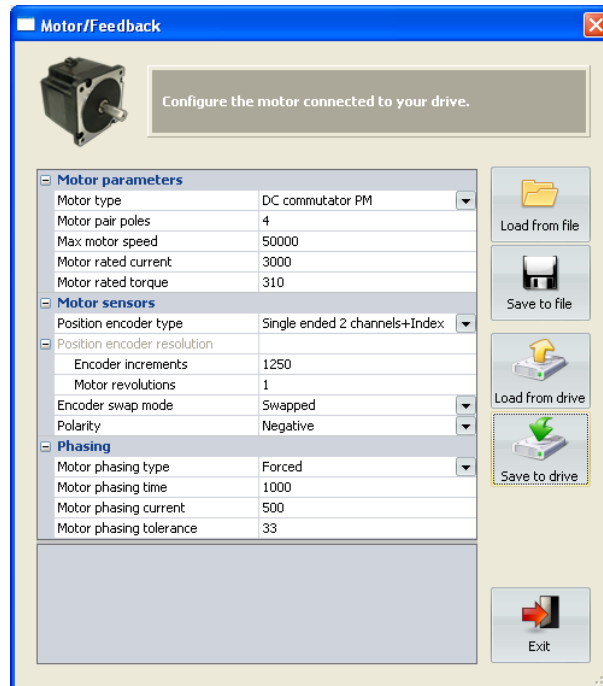

Figure 7: Motor / feedback configuration
- 1. Configure Motor and feedback:** When pressing at the Motor/Feedback button of the main window a dialog box with all the possible parameter will appear (see Figure 7). Once the motor and feedback is configured the parameters could be sent to the drive using *save to drive* or saved into a file using *save to file* button. Please, note that *save to file* only will save the parameters presents in the motor dialog. If you want to save the whole parameters of the system into a file use configuration option of the main menu bar.